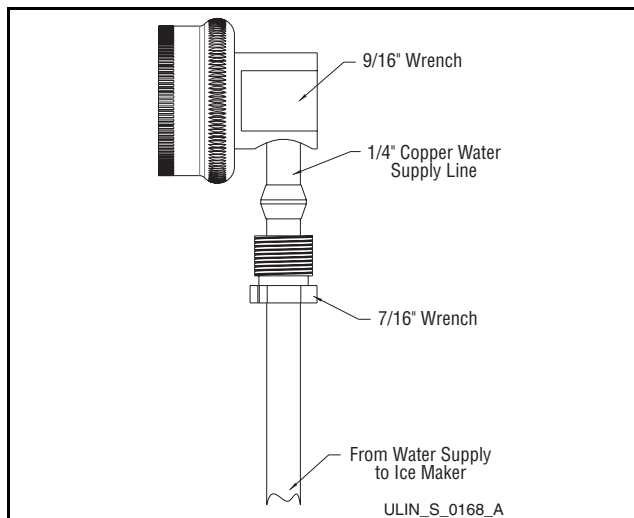

Figure 70
2. Locate the U-Line supplied garden hose fitting. Ensure the end of the copper tubing has been cut straight and is free of burrs. Slide the compression nut and ferrule onto the copper tubing as shown (**Figure 70**). Push the assembly completely into the garden hose fitting and tighten using the two wrenches. Wait to connect this assembly to the appliance until the drain connection is ready.